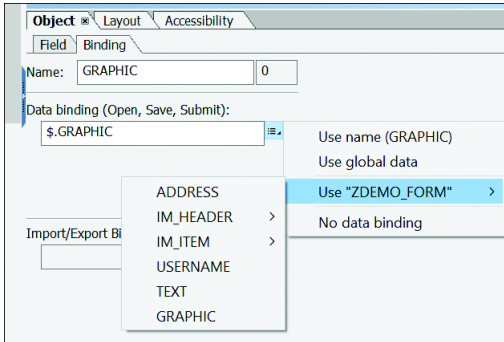

Figure 18.90 Binding Field to Context
3. If you want to bind the image field with the graphic node from the context, you can do so in the BINDING tab of the OBJECT palette. Binding to the graphic node of the context allows you to dynamically pass the image URL. Click the drop-down icon next to the DATA BINDING field and select the GRAPHIC node, as shown in Figure 18.90. Once bound, the field will display the node name preceded by a dollar sign (\$) symbol.